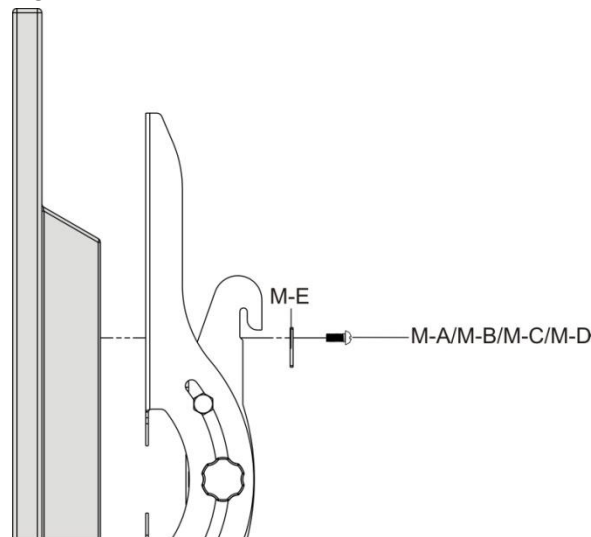

Fig. 6
- Attach the adapter brackets to the back of the screen by using the appropriate combination of screws, washers, as shown in Fig. 6.
- Begin with the shortest screw, hand thread it through the washer and the adapter bracket and into the screen as shown in Fig. 6.